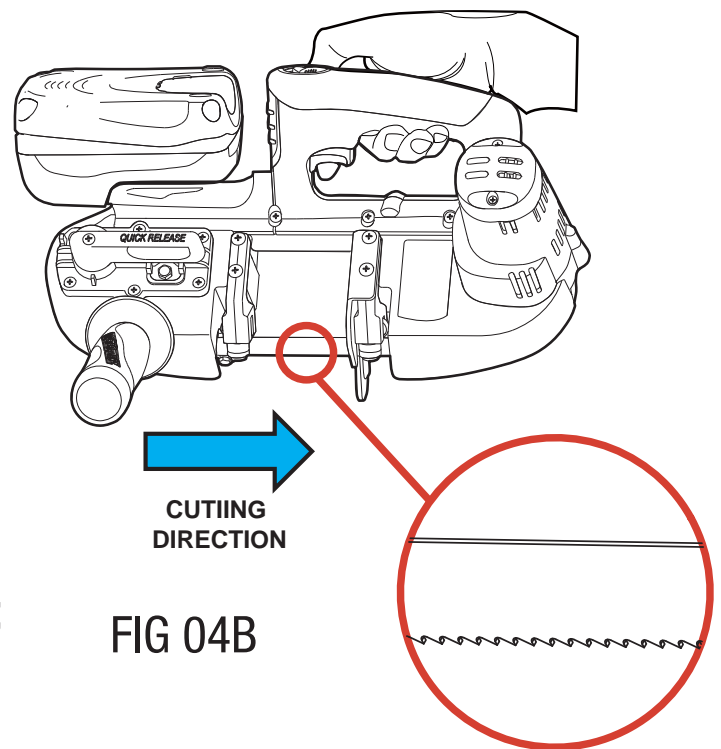

FIG 04B
5. CERTIFY that the teeth are in the correct cutting direction. The teeth should cut back, as figure 04B;